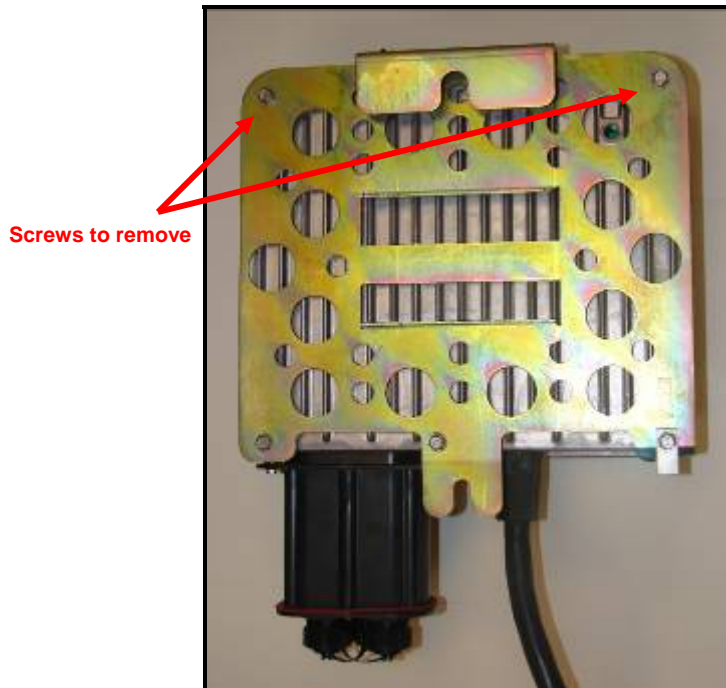

Figure 46 – Remove screws from CT Backhaul-Point back plate
2. Remove the two screws from the top of the back plate on the CT Backhaul-Point (*Figure 46*).